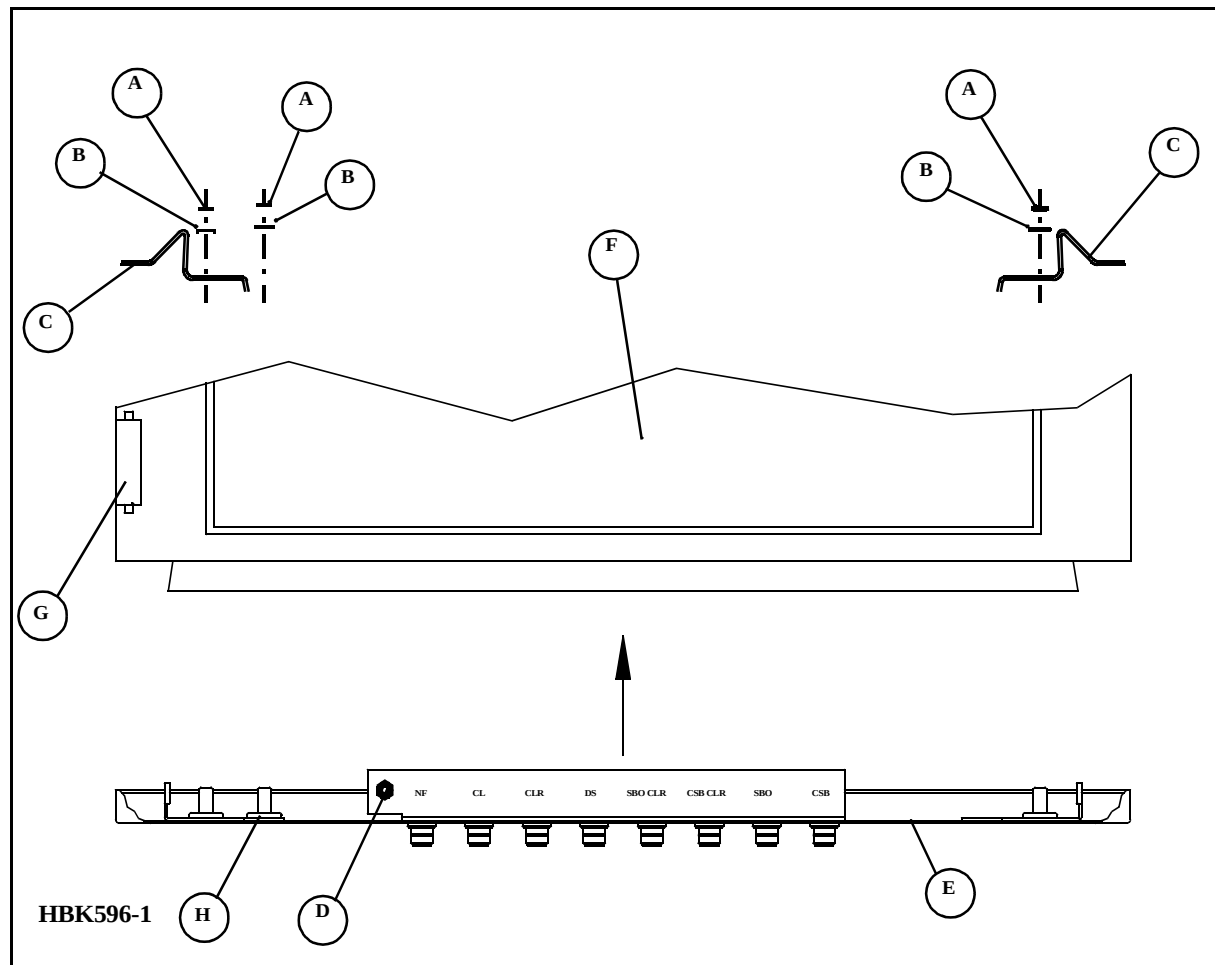

Figure 2-3 Moving the RF connectors to the cabinet top.
If desired the RF connectors may be moved from the cabinet top to the bottom or vice versa, as illustrated in figure 2-3. The back section (F) of the main cabinet consists of a connector plate and a blind plate that are interchangeable. These plates are identical, except for the connectors.